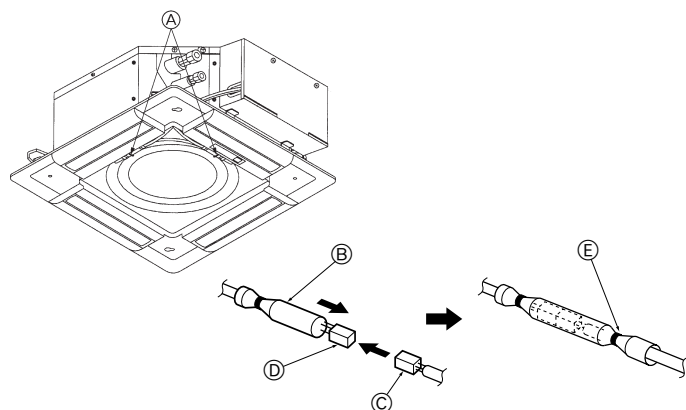
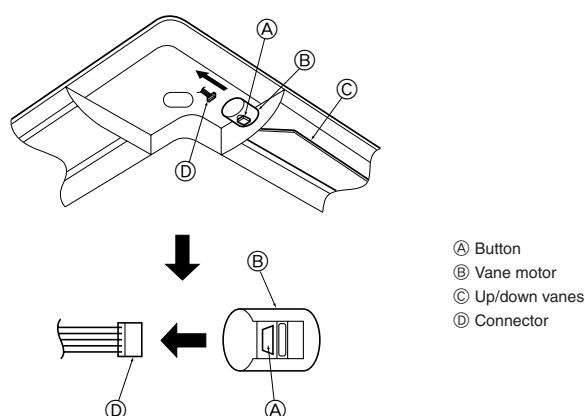

Fig. 8-8
Fig. 8-9
8.3.4. Wire connection (Fig.8-8)
- (A) Fastener (Accessory)
- (B) White glass tube
- (C) Connector of the main unit
- (D) Connector of the grille
- (E) Band (Accessory)
8.4. Locking the up/down airflow direction (Fig. 8-9)